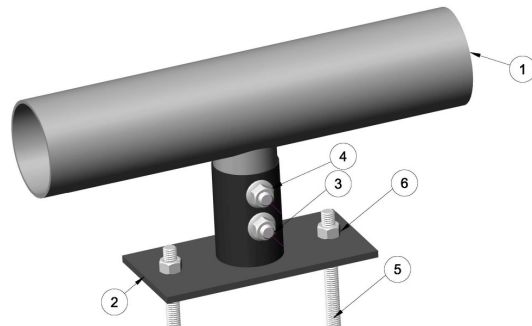

Figure 2. Carrier mount installation.
3. As shown in figure 2, slip the ½"-13 threaded rod (item 5) through the predrilled holes and temporarily secure with a ½"-13 top lock nut (item 6).